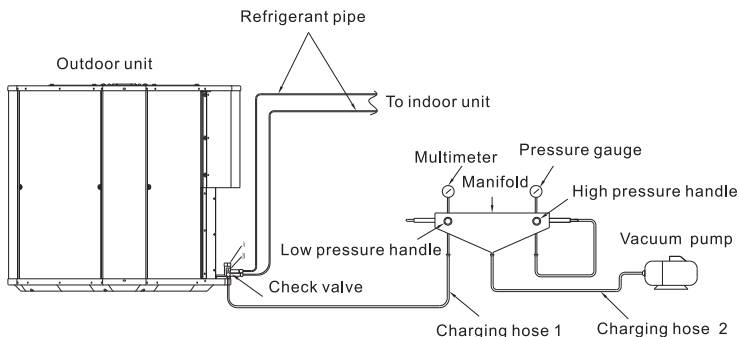

Fig 19
■ When connect pipe length over 5 meters(single distance),use vacuum pump to exhaust the air ; As for the unit utilizing R410A, it must use vacuum pump to exhaust the air no matter how long the pipe is . (Refer to Fig 19)
- ① Open Nut A, connect Charging hose 1 of the manifold to valve A (Valve A and B must be turned off). Then connect Charging hose 2 to the vacuum pump.
- ② Open Low pressure handle of the manifold Lo complete.
- ③ Start the vacuum pump to exhaust the air. Open valve B a little to check whether the air come in or not.(The noise from vacuum pump changes and the reading of gauge alters from negative to zero),and then tighten the valve nut.
- ④ After exhausting the air, close Low pressure handle of the manifold (Lo) completely.